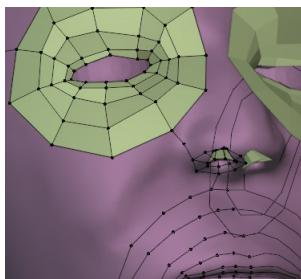

Figure 7-10 Flipped normals around nostrils
13. To work on other areas of rings, extrude a vertex out towards the ear, nostril, mouth and neck and build up rings of quads in a similar way to the eye. You can see in Figure 7-10, where the faces have been built for the nostrils, that Blender sometimes points the normals inwards instead of outwards. This happens if you bridge loops without any references faces around the edge. You can fix this by selecting all the vertices facing the wrong way, then select **Mesh ▶ Normals ▶ Flip**. However to avoid this problem in the first place you should always extrude out from an edge so that at least one part of the edge loop can be correctly orientated when you start filling in quads.